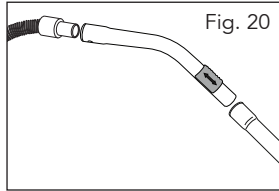
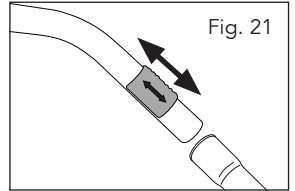

Fig. 20
Fig. 21
The air regulator (22) can be fitted between the flexible suction hose (37) and the telescopic suction tube (19) (Fig. 20). The suction power of the nozzle can be adjusted by using the band on the air regulator (22) (Fig. 21).